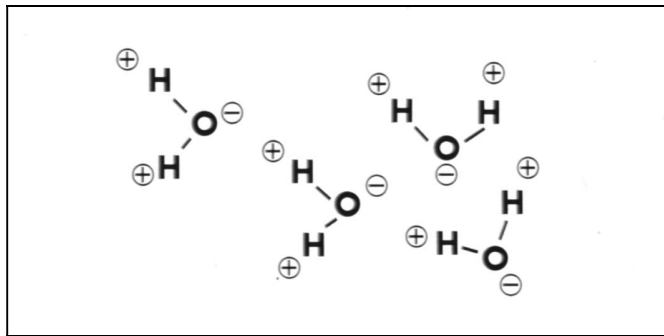

Fig. 2: A water molecule as a dipole
Water is a perfect dissolving agent. This is due to the high degree of dipole movement (Fig. 2 - datasheet 1.3.2) which leaves the water molecule negatively charged, thus becoming surrounded by a ring of hydrates.
**W**ater, passing through the specially aligned polarity of the sealed Neodym magnets used in the magnetic water treatment units, becomes transformed. Resonance causes the separation of the positive and negative charged water molecules and releases the previously surrounded micro-particle (Fig. 2).